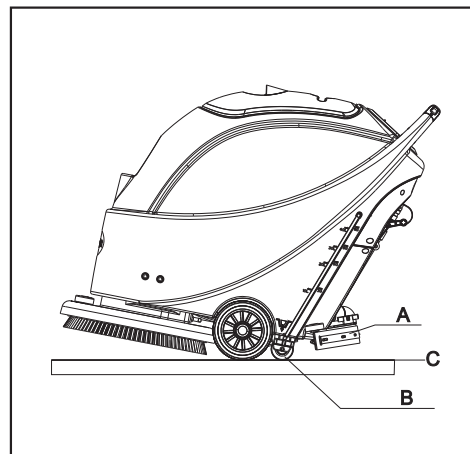

FIGURE 12
8. Release the safety switch (1) to turn off the brush/pad holder and solenoid valve.
9. Press the Vacuum switch (42) to the "Off" position, and the Vacuum will delay for 5 seconds before stopping work.
10. Press the solution control switch (44) to the "Off" position to completely turn off the solution flow.
11. Press the power switch (41) to the "Off" position.
12. Use the squeegee lift handle (14) to lift the squeegee.
13. Grasp the handle (2) and gently tilt the machine backward until the guide wheel (B) touches the floor. See Figure 12.